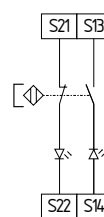

Fig. 13
**Dual-channel control of magnetic safety switches to IEC 60947-5-3 (see Fig. 13)**